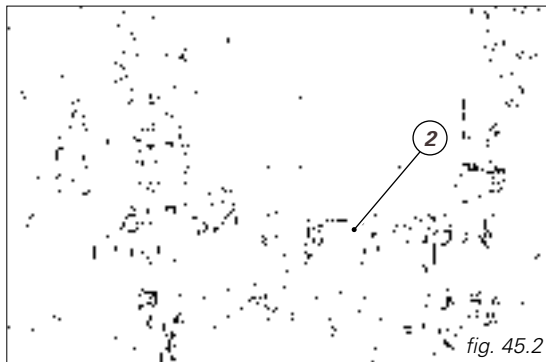

fig. 45.2
The fuse located on a side of the battery (fig. 45.2) protects the electronic regulator. Remove the fuse cap (2) to expose it.